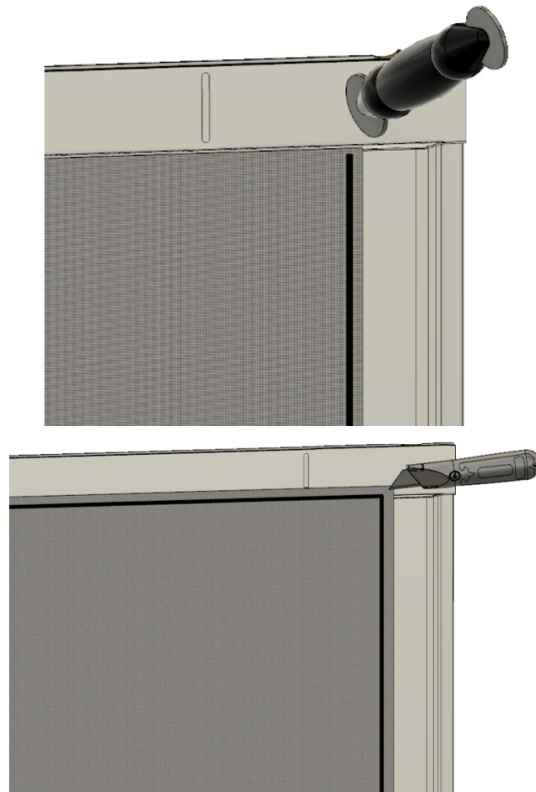

Figure 5
STEP 3.....Install screen mesh into frame (Scan QR code on mesh bag, (SEE FIG. 5), see instructions on mesh bag, and/or follow below steps)